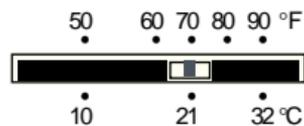

Figure 6. Temperature-Set Sliding Switch
9. Move the **temperature-set sliding switch** (see fig. 6) to the temperature you want maintained when the house is occupied.